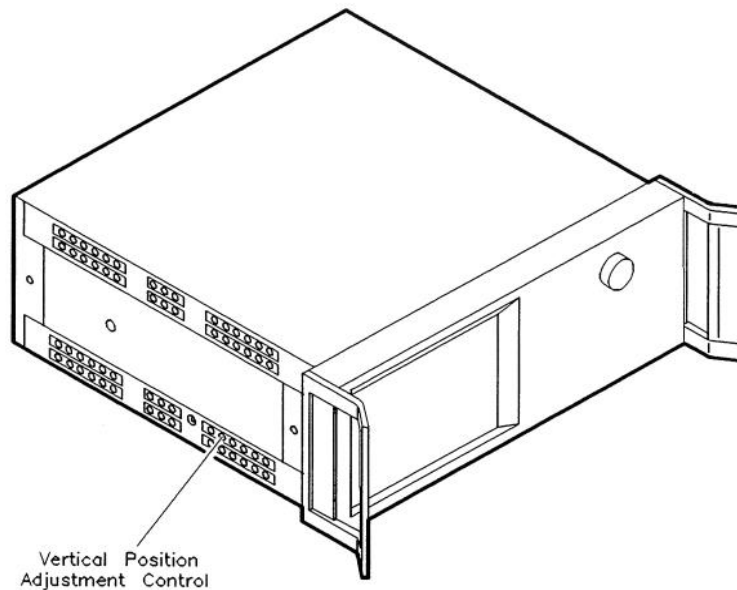

Figure 3-1. Vertical Adjustment Location
2. To access the vertical position and focus controls, remove the side panel nearest the display. See Figure 3-1.